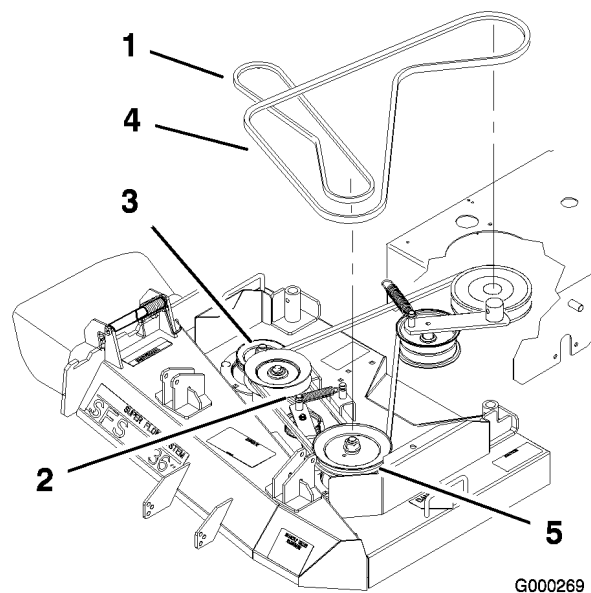

Figure 51
6. Disconnect the idler arm spring to relieve tension on the idler arm and idler pulley, then remove the worn mower belt (Figure 51).
7. Install the new mower belt around the outward spindle pulley, the idler pulley, and in the lower groove of the double spindle pulley (Figure 51).
8. Reconnect the idler arm spring (Figure 51).